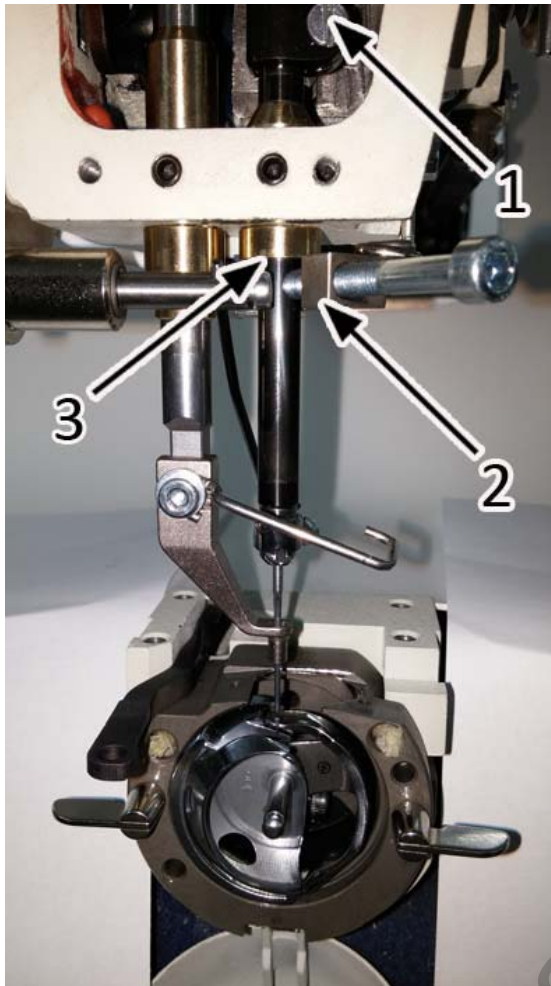
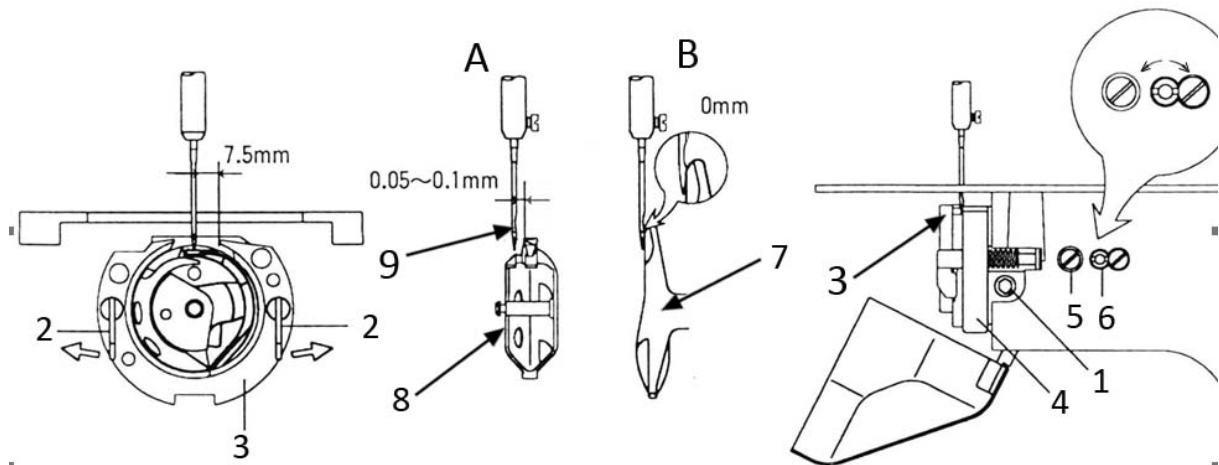

Fig. 18
Fig. 20
The hook in connection with the needle must be set so that the edge is in the position of lower relief of needle when the hook is taking the loop of upper thread. Figure 20, detail A.
Recommended process, Figure 18,19,20:
- A. Set the needle into the lower reversal point by turning the hand wheel. Put the stop sleeve (2) on needle bar and insert the scale (4) between stop sleeve and bushing (3). Tighten the screw (5) so that there is no play between the bushing, stop sleeve and scale. The thickness of the scale for shuttle hook is 2.5mm.
- B. Remove the scale (4) and pull the scale (2) onto the bushing (3) by turning the hand wheel.
- C. In this position the edge of the hook must be in the axe of the needle. Loosen the screw (1) (Fig. 18) and turn with the shuttle driver (7) (Fig. 20) to the position so that the hook (8) touches the shuttle driver by turning in clockwise. In this position the edge of the hook must be in the axe of the needle. The screw (7) is loosen so there is necessary to set this screw in contact with the needle, Figure 20, detail B. It is used as protection of the hook.
- E. Turn safety levers (2), Fig. 20 and remove the ring of the hook (3) from the hub (4).
- F. Loosen the screw (5) and set the edge of the hook in distance of 0.05 - 0.1mm from the hook relief (9) by turning the eccentric. Figure 20, detail A.
- G. After that set the distance from the axe of the needle and the edge of hub of hook relief (4) in value 7,5mm.
- H. Put the ring of the hook (3), lock safety levers (2) to vertical position and check if all screws are tightened carefully.